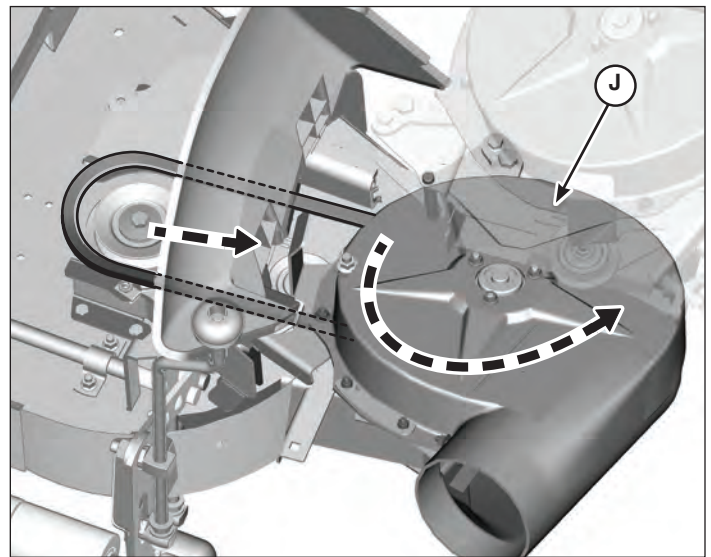

Figure 36
9. Fully rotate turbo assembly (J, Figure 36) away from mower and lift to remove.